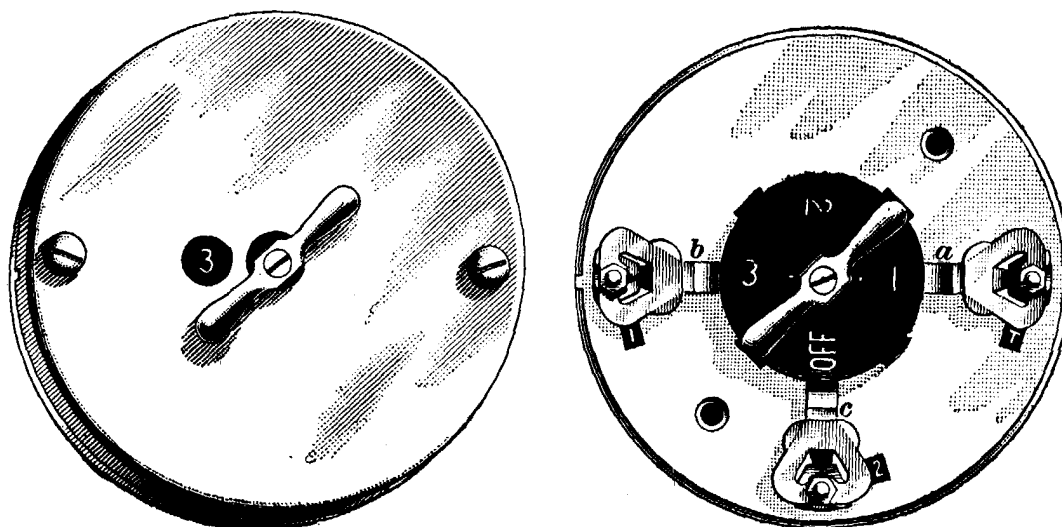

FIG. 43.
39. Consolidated Heater Switch.—Fig. 43 shows the heater switch with the cover on and off. This switch will handle 30 amperes at 500 volts. The spring-brass contact plates are mounted on a glazed porcelain base and the arm of the switch is of composition insulating material. The
position on which the switch rests is clearly shown by a dial number that appears through a hole in the cover. In both views of Fig. 43, the switch is on the third point; on this point, the current goes in on the right-hand side of the switch at the post marked *T*. The three arms *a*, *b*, *c* are